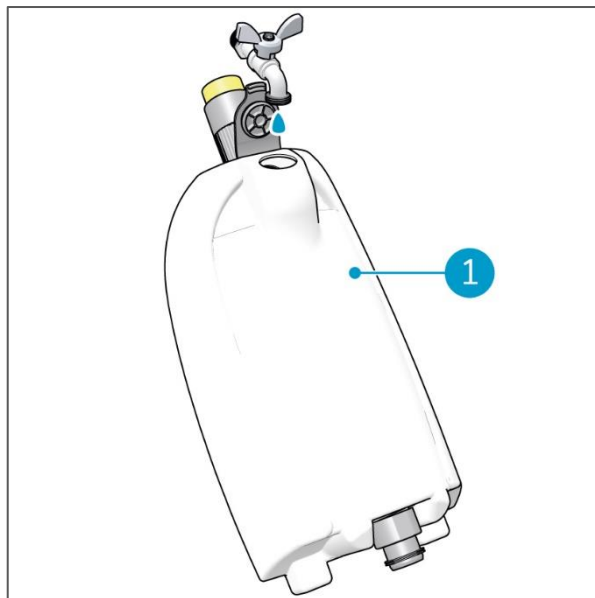

Figure 8
1. Fill the solution tank (Figure 8, pos 1) with tap water.
3. Fill it with water, see (Figure 8, pos 1).